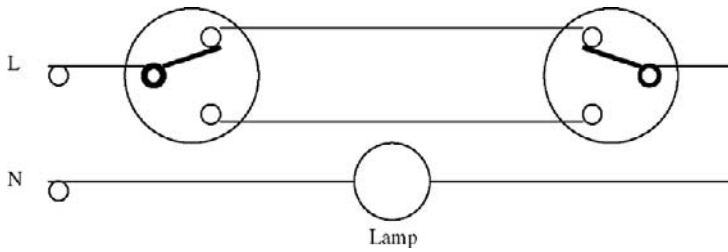

Fig. 5
- The **CIRCUIT** or **SCHEMATIC** diagram, which shows how a system *works*, and not how it would actually be wired. Such a diagram, Fig. 5 for example, shows a two way lighting system